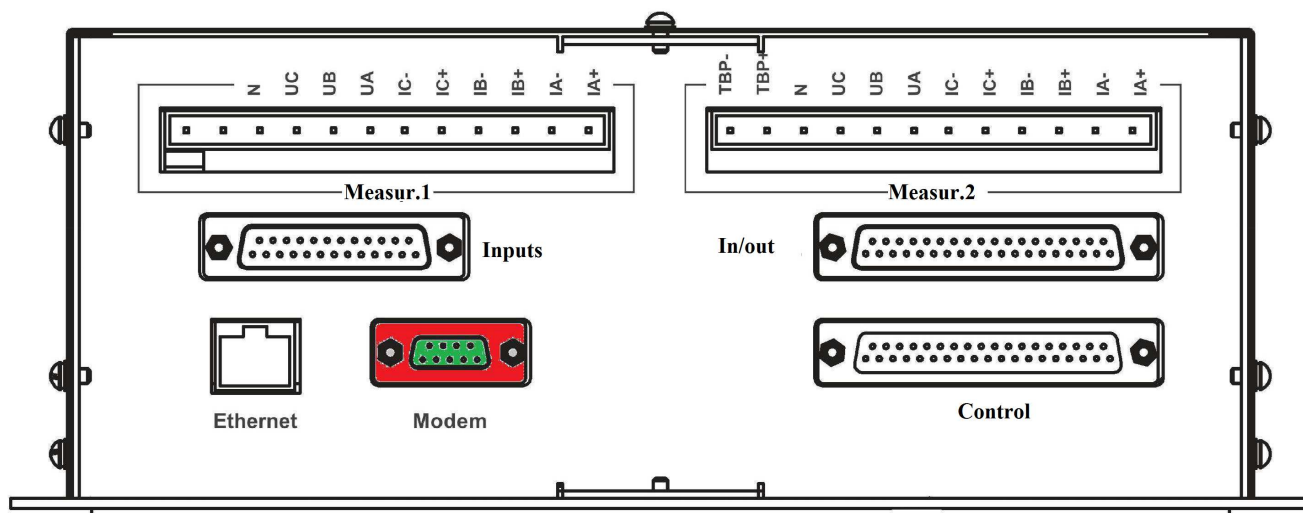

Figure 11.
4.2.3 Connect the Backdoor unit (see Appendix 1) to the Modem connector of the controller (see Figure 11).